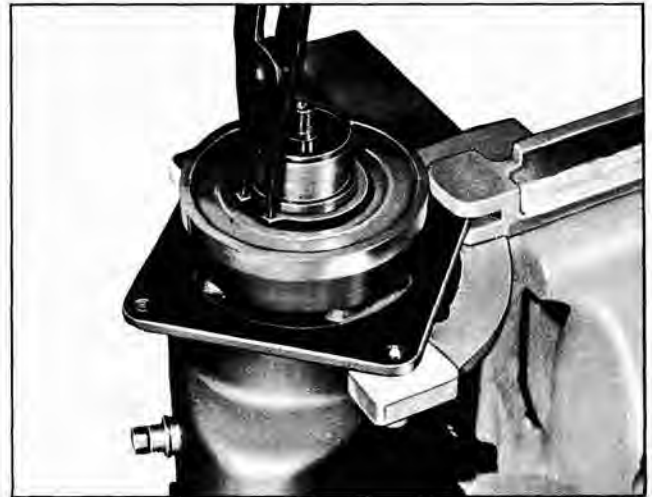

Fig. 5-58 Removing Coil Housing Retainer Ring
5. Use J-6435 (No. 26 Truarc pliers) and remove coil housing retainer ring (Fig. 5-58).